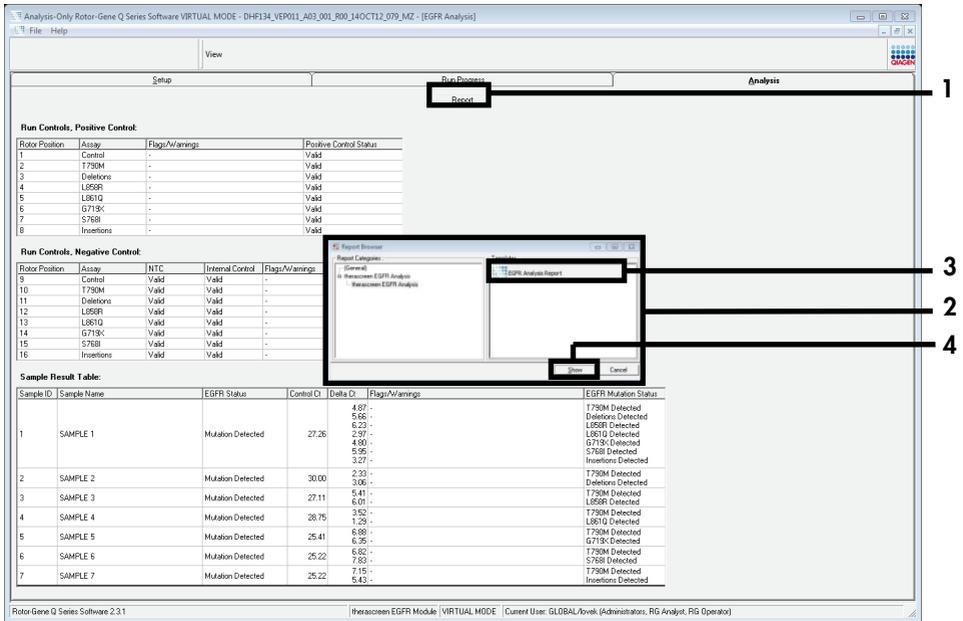

Figure 18. Selecting the “EGFR CE Analysis Report.” 1 = “Report”; 2 = “Report Browser” panel; 3 = “EGFR CE Analysis Report”; 4 = “Show.”
18. Assay results are reported as follows (Figure 18).
19. Click **Report** to produce a report file. The “Report Browser” window opens. Select **EGFR CE Analysis Report** under **Templates**, then click **Show** (Figure 18).